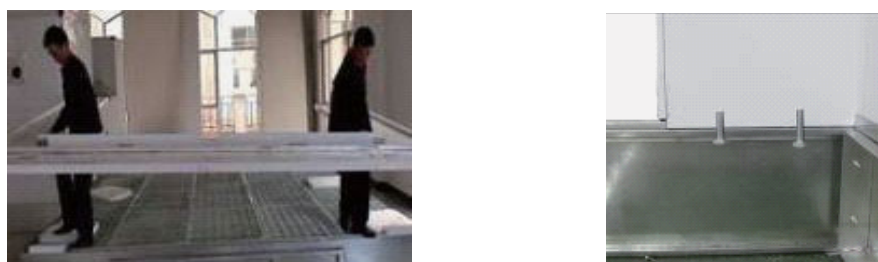

Fig. 2.19
- 3) Installate on the front metal panel of the basement and fix the vertical panel with bolts. (shown in Fig.2.19)